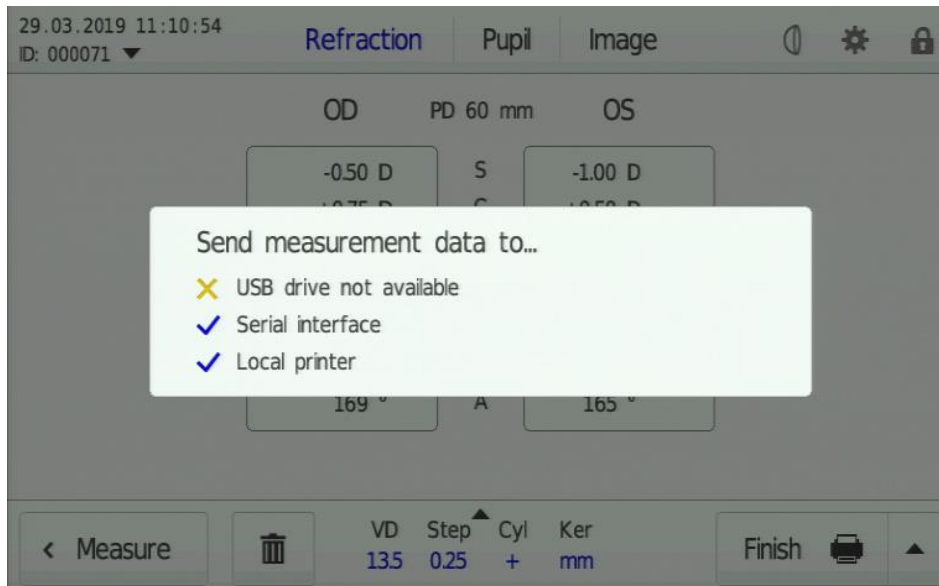

Fig. 57 Screen display during data output
- During measurement result output details on the individual steps are displayed on the screen (Fig. 57).